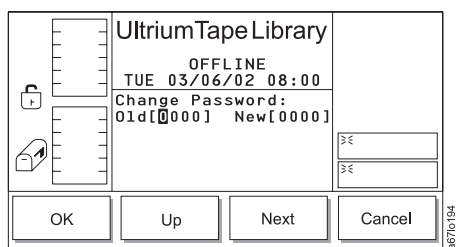

Figure 14-56. Set/Change Password Dialog
5. Press the button below the **Change** softkey. The Set/Change Password Dialog displays (see Figure 14-56).